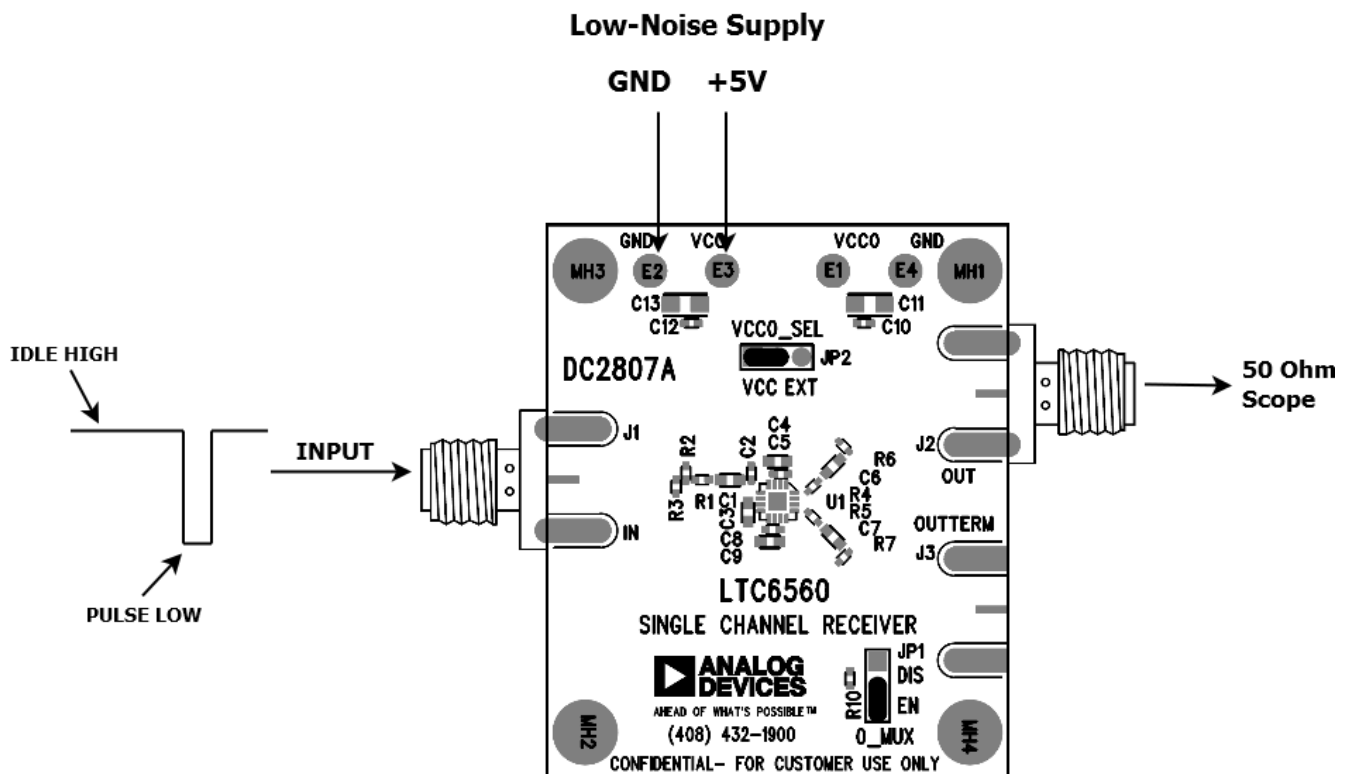

Figure 1. DC2807A Connection Diagram
3. Connect a 5V low noise power supply shown in Figure 1. V_{CC0} is hardwired to V_{C0} by default.